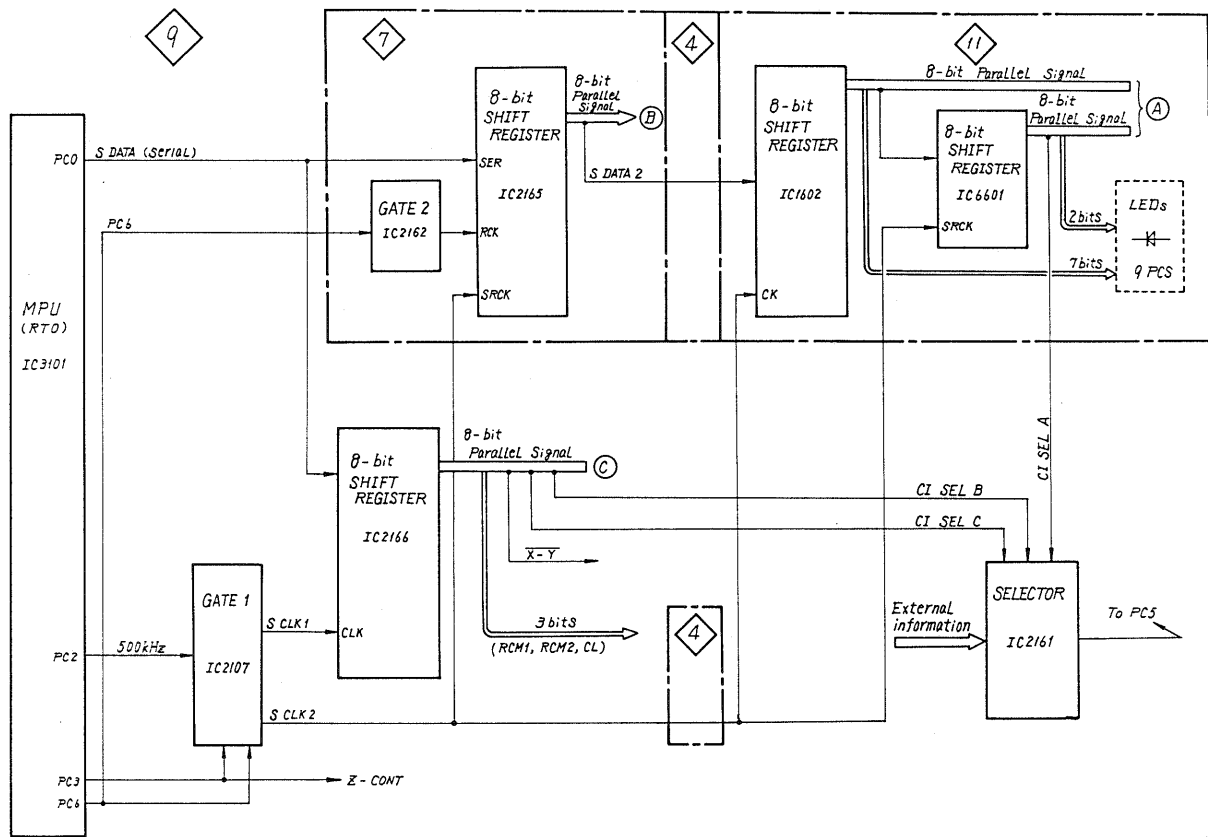

Fig. 5-15
5. Transmission of serial data (Refer to Fig. 5-15.)